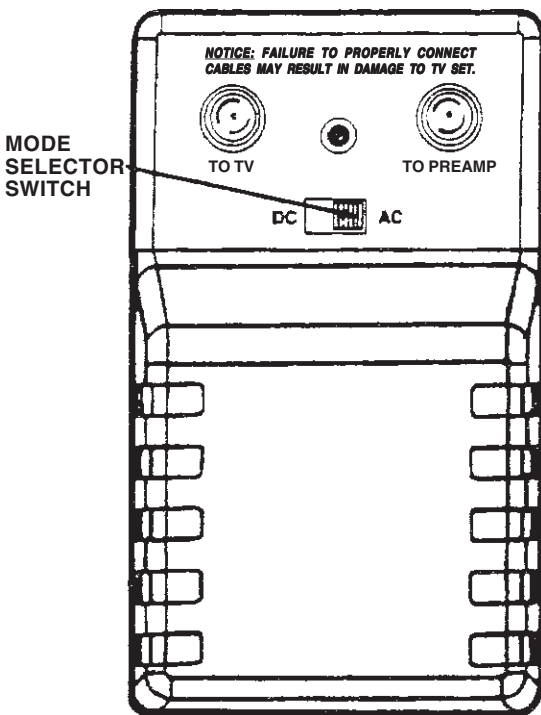

Figure 5
Place the power supply mode selector in the "AC" position. See Figure 5. Connect the black power supply wire to the negative lead of your DC power source. Connect the red power supply lead to the positive lead of your DC power source. Plug the power cord into AC receptacle. See Figure 2.
**AC Operation:** Make sure the power cord is plugged in and move the "mode selector" switch to the "AC" position. See Figure 5. **If red LED light does not light, check cable for short.**